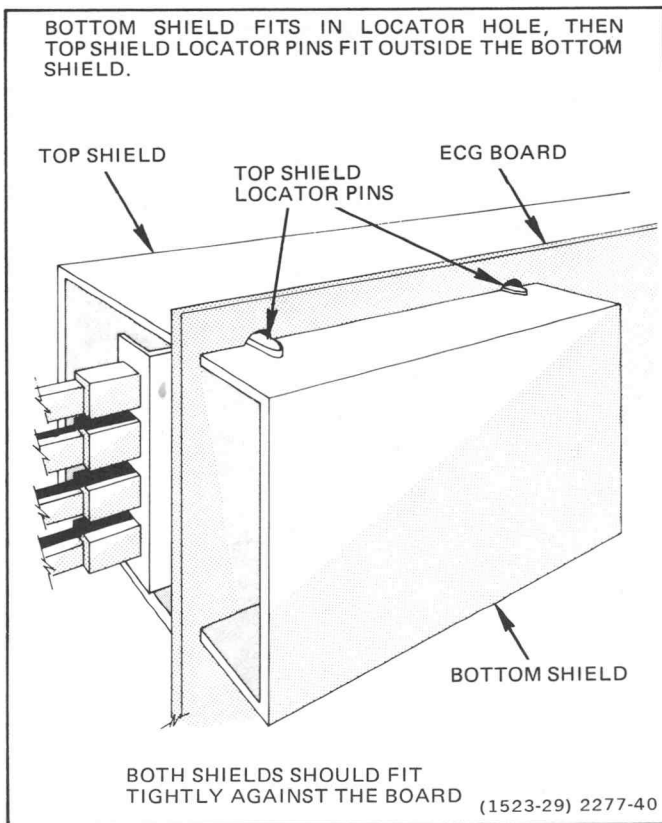

Figure 4-12. ECG shield installation.
2. Install shield as shown in Figure 4-12.